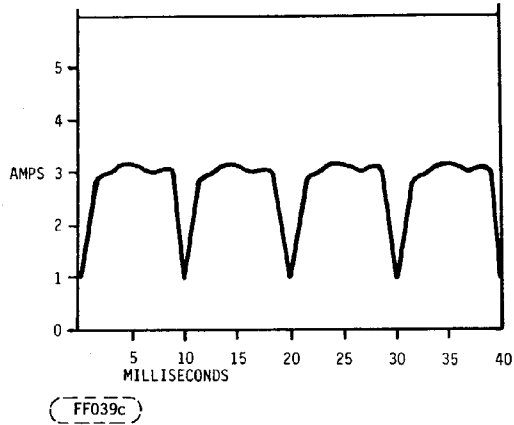

Figure 3. Typical Starting Current
- NOTE 1: At power-up, the motor current regulator will limit the 12-volt current to a peak value of less than 4.0 amps. (Typical starting current waveforms, Figure 3.)